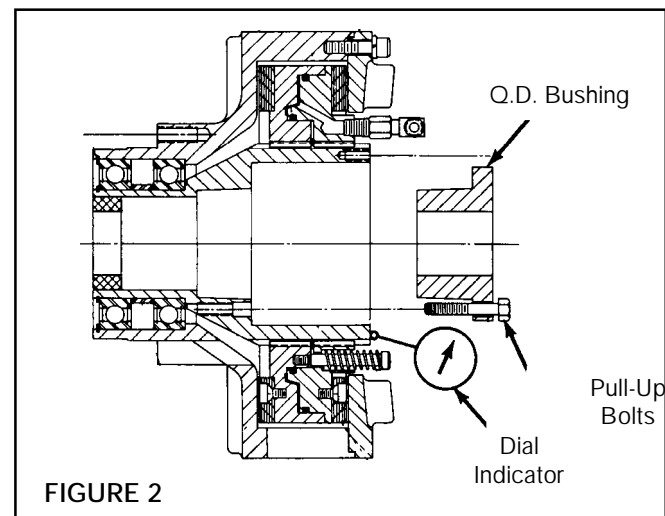

FIGURE 2
2. Thoroughly inspect tapered bore of the Splined Hub and tapered surface of the Q. D. Bushing. Remove any dirt, grease, or foreign material (See Fig. 2).
3. Install Q. D. Bushing into Splined Hub, aligning untapped holes on Q. D. Bushing Flange with tapped holes in Splined Hub (See Fig. 2).
4. Loosely insert Pull-Up Bolts and Lockwashers into Q. D. Bushing, and tapped holes of Splined Hub (See Fig. 2).
5. Measure runout of Motor Shaft. Runout must not exceed 0.002 T.I.R. (Total Indicator Reading) (See Fig. 2).
NOTE: Runout is minimized if a Dial Indicator is used as the Q. D. Bushing Pull-Up Bolts are tightened. Place contact tip of Dial Indicator on the machined surface of the Splined Hub to measure runout. Runout on this surface must be within 0.003 T.I.R. when the Pull-Up Bolts are tightened (See Fig. 2).